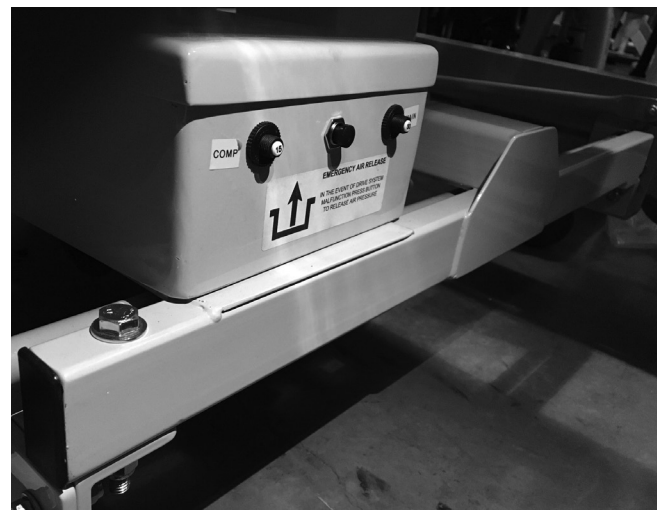

Figure 3
2. Press the pressure release button to manually raise the drive wheel. (Figure 3).